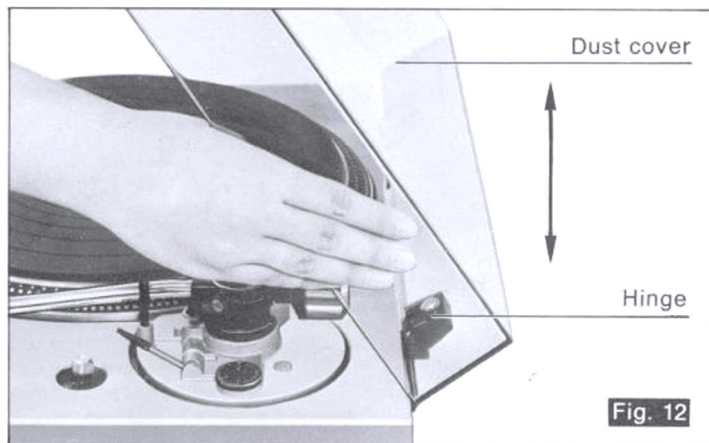

Fig. 12
⑧ Installation of the dust cover (See Fig. 12.)